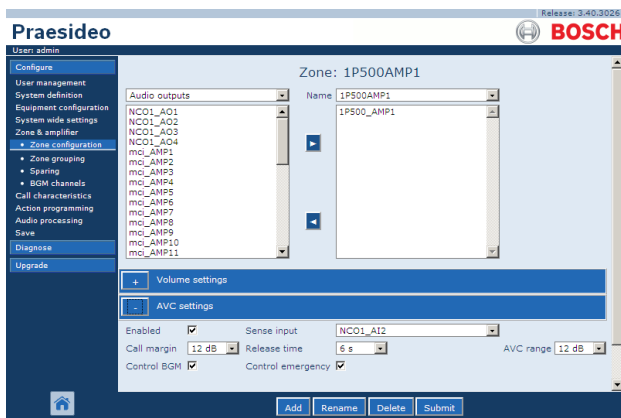

figure 49.1: AVC settings
set to AVC range (see figure 49.1). To prevent undesired supervision faults, make sure that:
- 1 Go to the *AVC settings* category of the *Zone Configuration* page. A screen similar to the one in figure 49.1 appears in the main frame of the web interface.